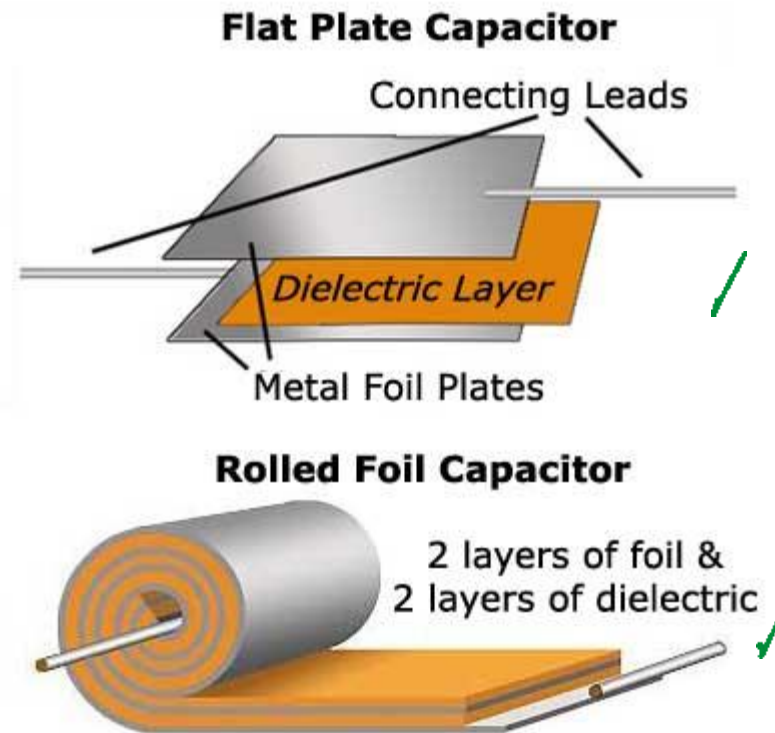

Figure 4, (Coates, E. 2020)
Figure 4 shows the construction of fixed value capacitors. Ideally, the build of the capacitor should meet the following criteria:
Figure 4 shows a circuit containing capacitors in series/parallel to a d.c. voltage source.
- I (current) has no effect on calculations, therefore is not labelled in figure 4.